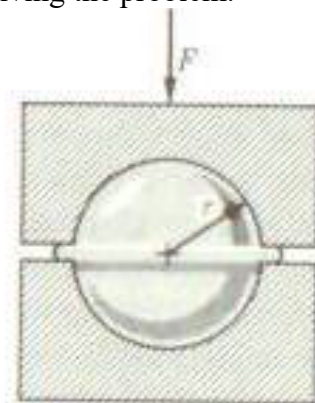

Fig. 2. Ball forging
2. Ball bearing balls are formed cold from wire stock in a closed-die (see Fig. 2). Consider a ball of 0.2 in. in diameter made from wire having an initial diameter of 0.15 in. The variation in length of the wire slug sheared from the rod is $\pm 3\%$. This gives rise to the variation in flash. The slug length is adjusted so that at its maximum length, the cavity is just filled and maximum flash thickness is 0.005 in.